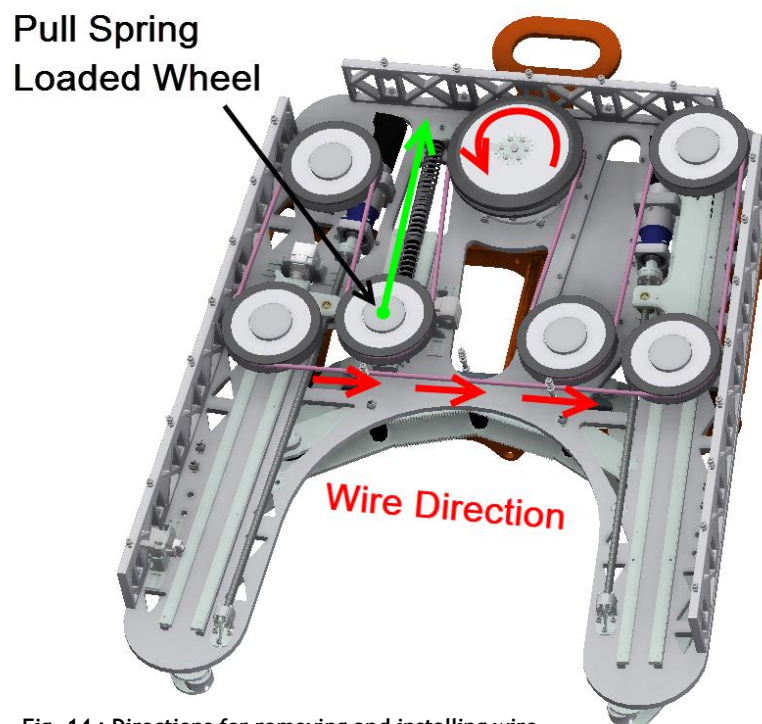

Fig. 14 : Directions for removing and installing wire
2. Place new wire around every wheel except one (not the spring loaded wheel) with wire direction as shown on Fig. 14 : Directions for removing and installing wire.